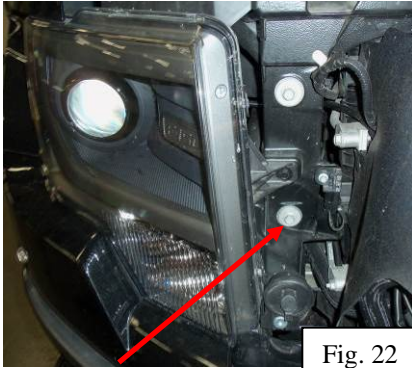
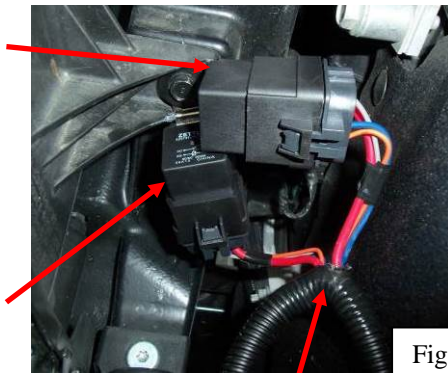

Fig. 22
Fig. 23
18. Remove the 10mm bolt holding the passenger side head light in place (Fig. 22). The wire harness relays will attach using this bolt. Some tape may have to be removed from the harness to allow more slack in the wires for the relays. Attach the relays as shown (Fig. 23).